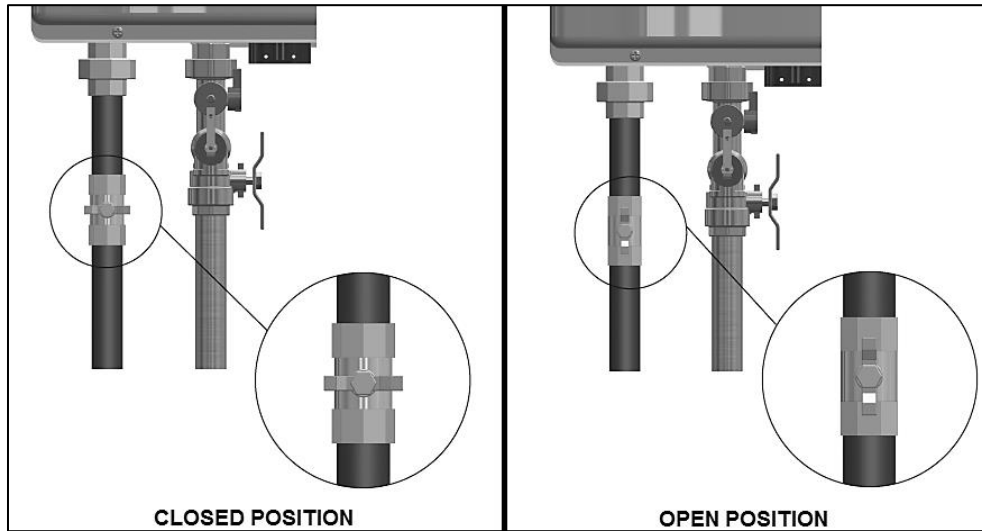

Figure 19 – Gas Line With Shut-Off Valve Detail
- A manual gas shut-off valve should be installed in the gas supply line close to the water heater. See Figure 19 for detail.